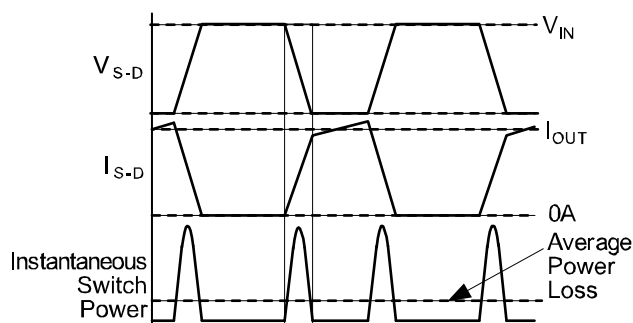

Figure 6. Switching Transition Losses
**Switching losses occur twice each cycle**, when the switch turns on and when the switch turns off. This is caused by a non-ideal world where switching transitions are not instantaneous, and neither are currents. Figure 6 demonstrates (Or exaggerates.) how switching losses due to the transitions dissipate power in the switch.